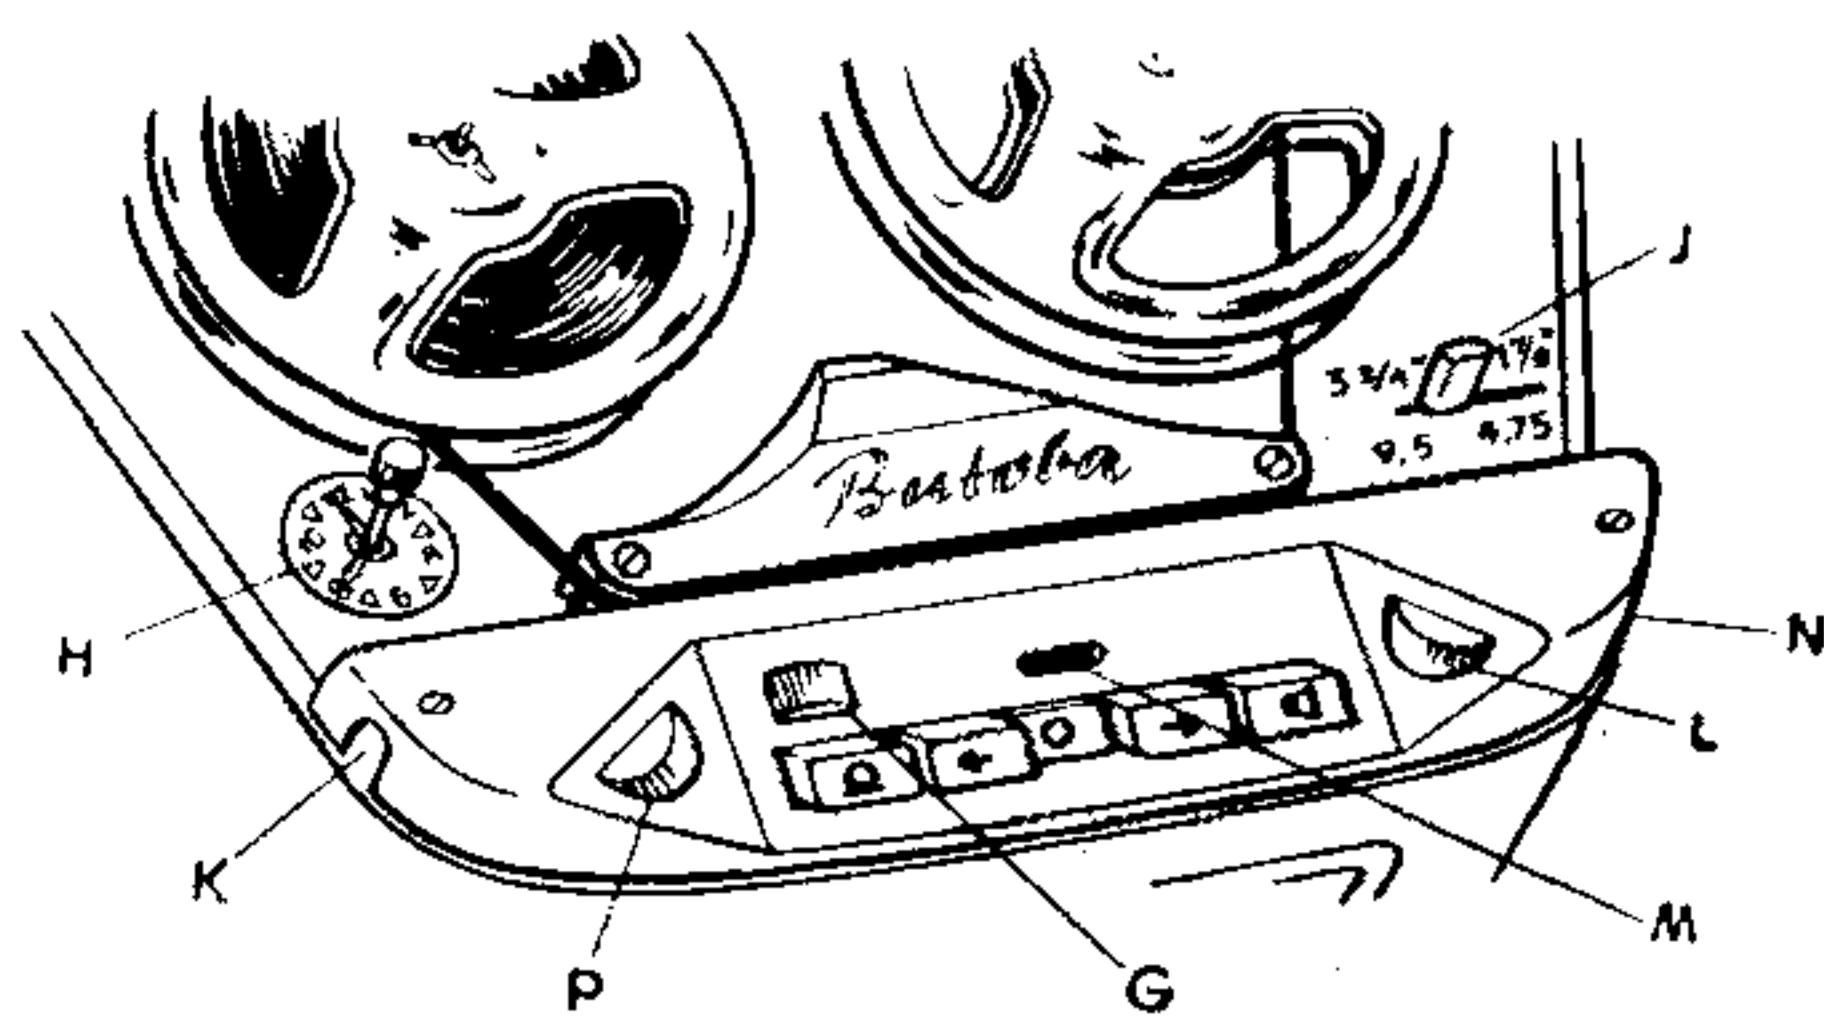

Fig. 7
Push lever of switch "J" to the left, see fig. 7.
Push lever of switch "J" to the right, see fig. 7.
- Shift start-stop lever to the left, see fig. 7.
b) Adjust sound volume by turning knob "P", see fig. 7.
c) Regulate tone control by turning knob "L", see fig. 7.